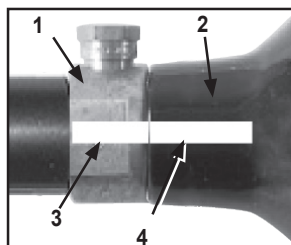

Figure 8: Properly Marked Valve And Cylinder
The brass or nickel plated cylinder valve (Figure 8, #1) is intended to be permanently attached to the air or CO2 cylinder (2).
Refer to Figure 8. There have been reported incidents caused by players unknowingly unscrewing the cylinder (2) from the cylinder valve (1). This occurs when the player thinks the entire valve-cylinder assembly is being unscrewed from the air/CO2 adapter of the paintball marker, when in fact he or she is unscrewing the cylinder from the cylinder valve.
To avoid this danger, it is recommended (if your cylinder is not already marked) that you use paint or nail polish to place a mark (3) on the cylinder valve, and place another mark (4) on the cylinder, in line with the #3 mark as shown in Figure 8.
4. Watch the marks on the cylinder and cylinder valve (as shown in Figure 8) as you turn the cylinder approximately $\frac{3}{4}$ turn counterclockwise. This allows the air/CO2 valve pin to close so that no air/CO2 will enter the marker.